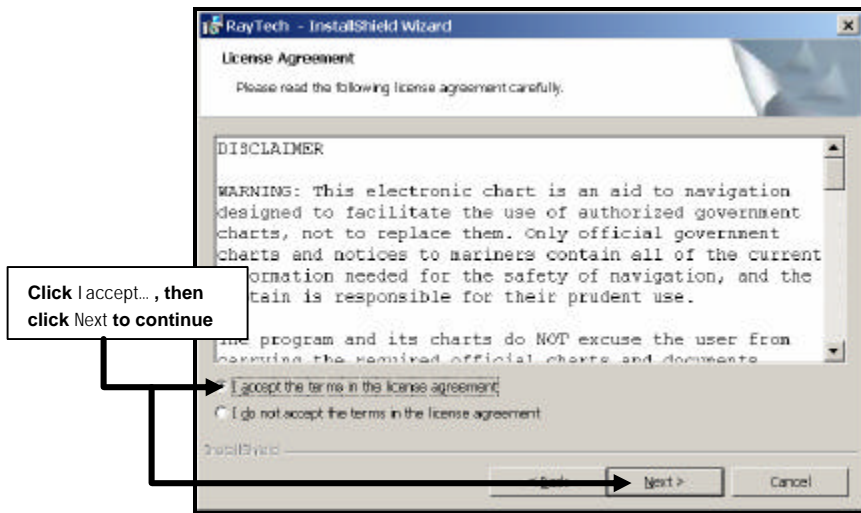

Figure 2-2. InstallShield Wizard License Agreement Screen
2. Click **Next**. The InstallShield Wizard (ISW) License Agreement screen (Figure 2-2) is displayed. This screen contains Navigator's Licensing Agreement/Legal Disclaimers.